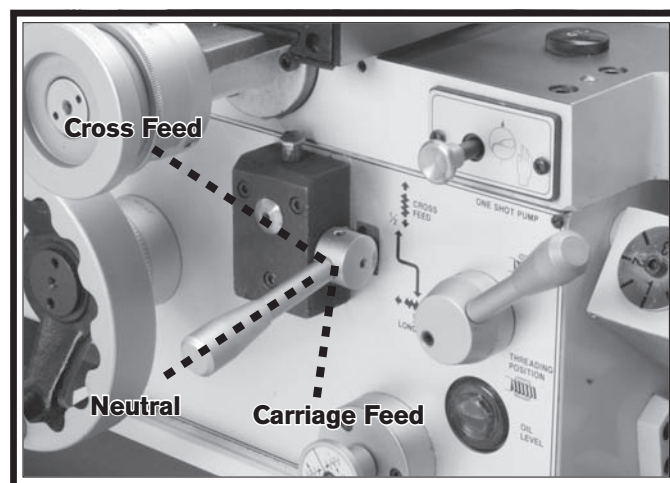

Figure 83. Feed control lever positions.
3. Use the feed control lever on the front of the apron to engage power feed for either the carriage or the cross slide (see **Figure 83**). To engage the carriage, push the lever to the left and down. To engage the cross slide, push the lever to the right and up.